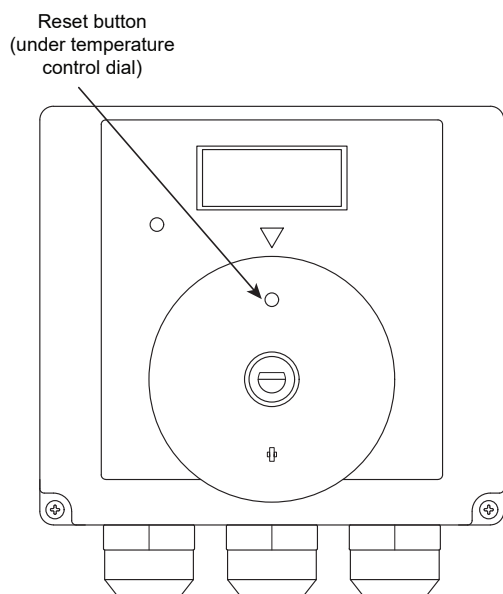

Figure A-2: Digital Dual Thermostat - Front View
1. Gently pull on the temperature dial to uncover the manual reset button, refer to Figure A-2.